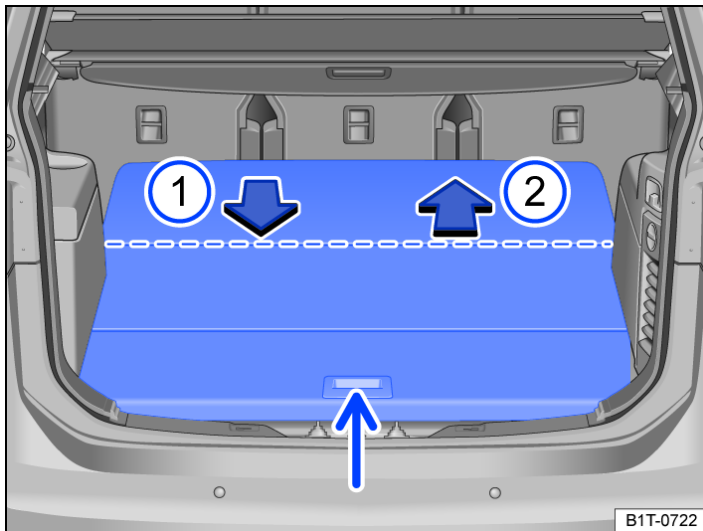

Fig. 1 In the luggage compartment: lowering the luggage compartment floor
- Grip the handle on the luggage compartment floor → Fig. 1 (small arrow) and pull it in the direction of the arrow → Fig. 1 ① until the front part of the luggage compartment floor folds down on its own.